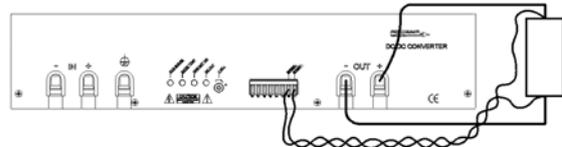

Figure 5. External sense!
1. Connect a twisted-pair (0.25mm² -1.5mm²) between the sense terminals of the converter and the load, see *Figure 5*. The sense leads and the power cables shall be of approximately the same length and drawn as close to each other as possible. **Beware of correct polarity!**